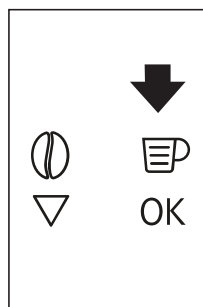
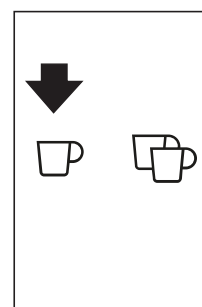
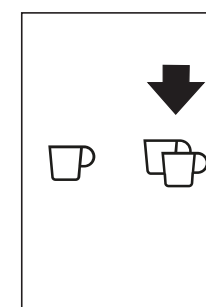

Fig. 18
Fig. 19
Fig. 20
- ▶ Press the icon (B5) (Fig. 18) to select the type of coffee: espresso, small cup, medium cup, large cup, mug. Press the icon  (B10) (Fig. 19) if you want to make a coffee and the icon  (B11) (Fig. 20) if you want to make 2 coffees. The appliance now grinds the beans and starts delivering the coffee into the cup. Once the set amount of coffee has been delivered, the machine stops delivery automatically and expels the exhausted waste coffee into the waste coffee container.